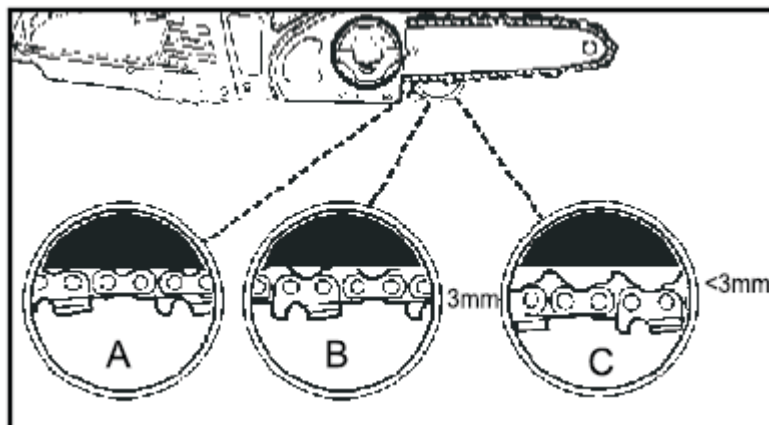

Fig. 3
⚠ CAUTION: If a chain is too loose or too tight, the chain and saw bearings will wear out more quickly. Study Fig. 3 for information on the correct cold tension (A), the correct warm tension (B) and a guide for cases where the saw chain needs to be adjusted (C).
⚠ CAUTION: Chain too loose if more than 3 mm after applying force with finger as shown in Fig 3.